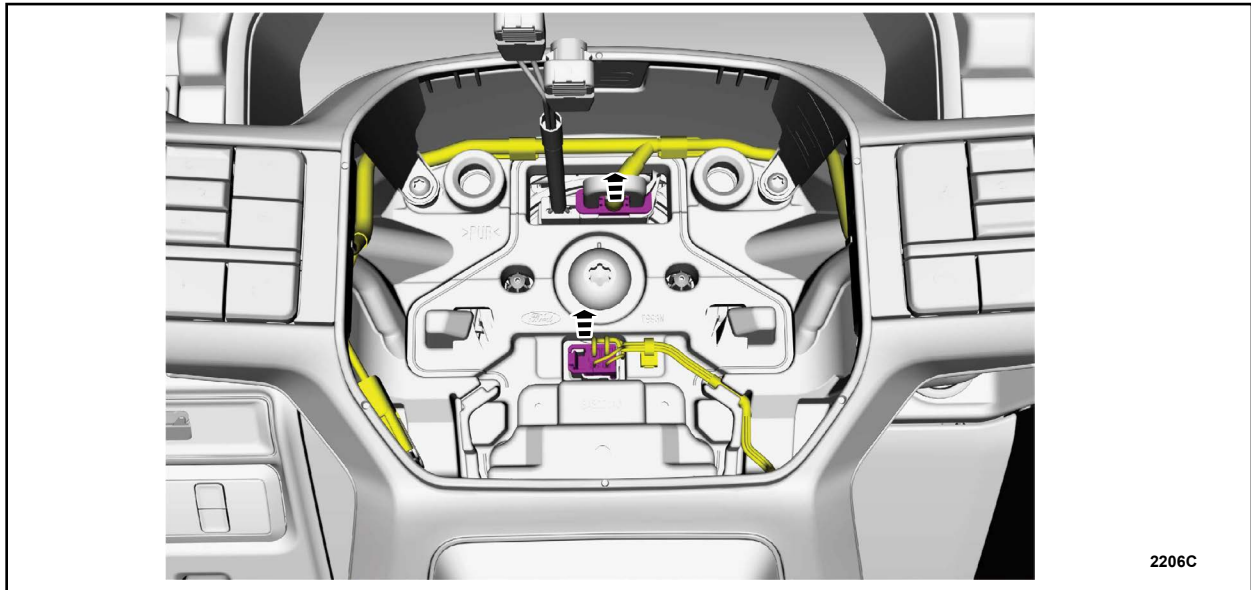

FIGURE 11
3. Disconnect the steering wheel electrical connector(s) See Figure 11.